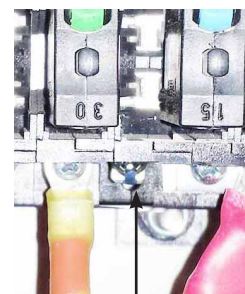

Figure 26 - Remove Buss bar tab at this position
1.47. Remove buss bar and brake flush at position AD. See Figure 26